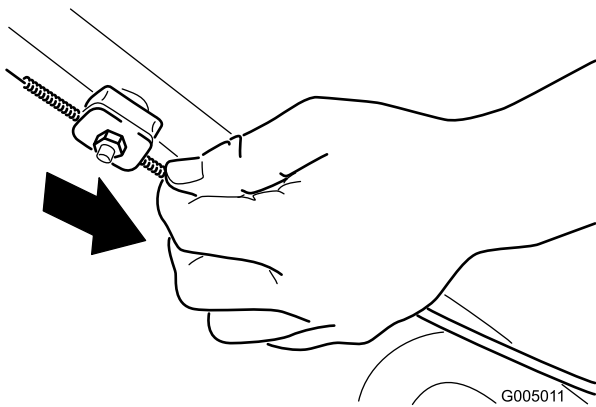

Figure 21
2. Pull down the cable jacket (toward the mower) until there is no slack in the cable (Figure 21).